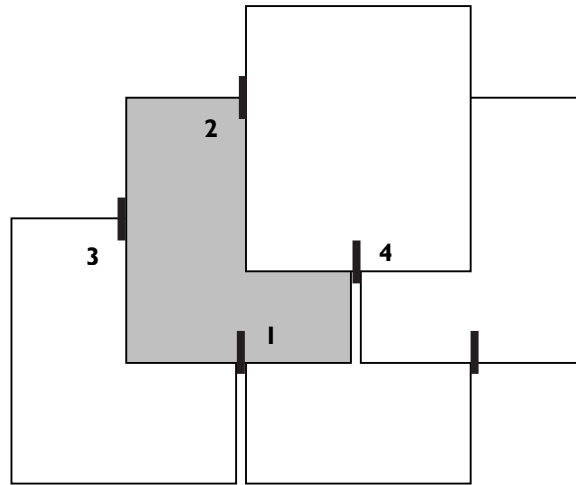

Figure 2. The shaded slate is held by hooks 3 and 4 which reduce lateral movement and 2 and 1 which hold down the head and tail respectively
Hooks hold the slates in position in three ways. Figure 2 illustrates how each hook (1) holds down the tail of one slate; the head of the slate above (2) and prevents lateral movement of the slates on either side (3 & 4). At the ends of courses, at verges and abutments, it is not possible to fix a hook at the free side so, to prevent lateral movement here, slates should be nailed or hooked and nailed. Under eaves slates also have to be nailed.